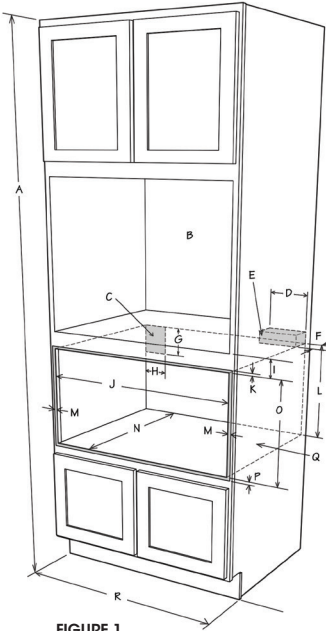
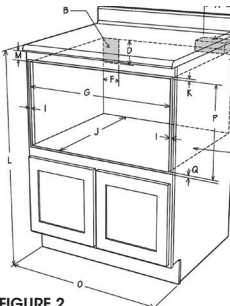

FIGURE 1.
FIGURE 2.
Figure 1 Contains many microwave drawer oven measurements for reference when planning the drawer's location. This microwave drawer oven can be installed below any electric or gas wall oven.*
- Dimensions that are shown in **Figures 2** and **3** (for 24") or **Figure 1** (for 30") must be used. Dimensions provide minimum clearance. Locate electrical outlet in the shaded area in the upper left-hand corner of the cutout.
Figures 2 and 3 Contain many microwave drawer oven measurements for reference when planning the drawer's location. This microwave drawer oven can be installed below any electric or gas wall oven.*